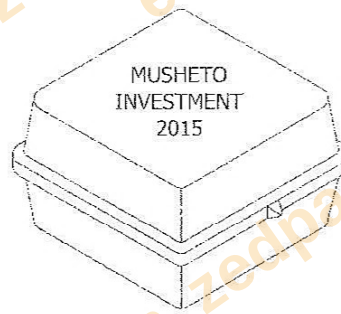

Figure 6
- 9 **Figure 6** shows a food container made from expanded polystyrene.
Question SECTION B, Q9 (15 marks). Figure 6: an expanded-polystyrene food container; plastics classification.